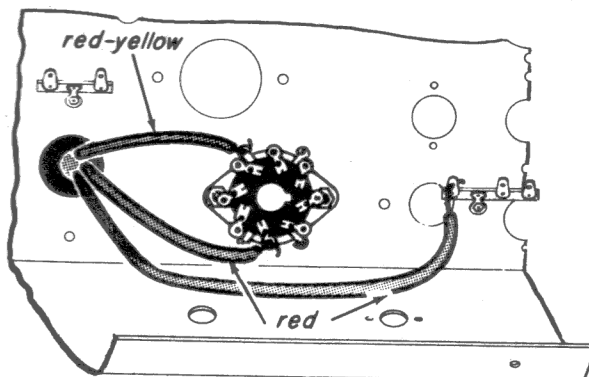

Fig. 17-7
Step 2. Cut and dress the red-yellow lead so that it may be connected to the ground lug at the tube socket, as shown in Fig. 17-7. Strip $\frac{1}{4}$ inch of insulation from the end of